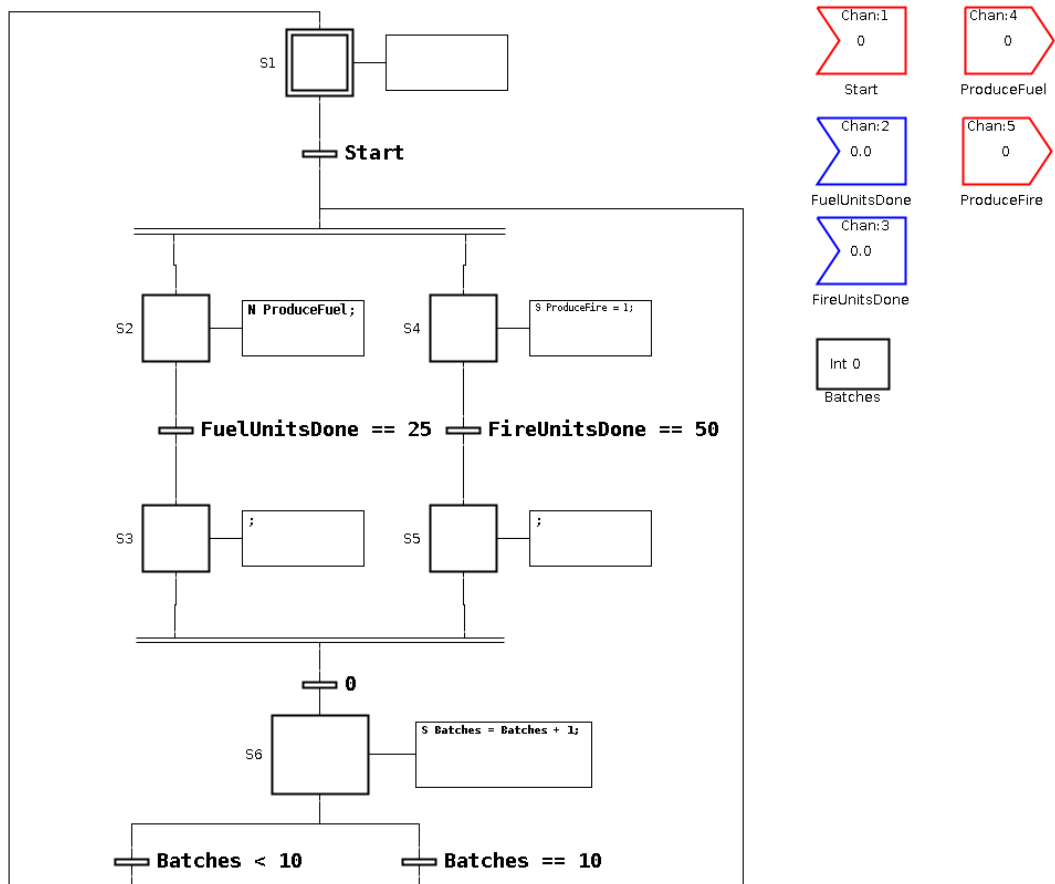

Figure 1: JGrafchart structure for problem 7.
7. A metal workshop has, due to a decreasing demand for gasoline tanks, started to produce lighters instead. The lighters consist of two parts, the fuel unit and the fire unit. The two units are produced separately in production lines. In order to facilitate the high-level control the company uses a JGrafchart program to coordinate the two production lines (shown in Fig.1) It is supposed to work in the following way: